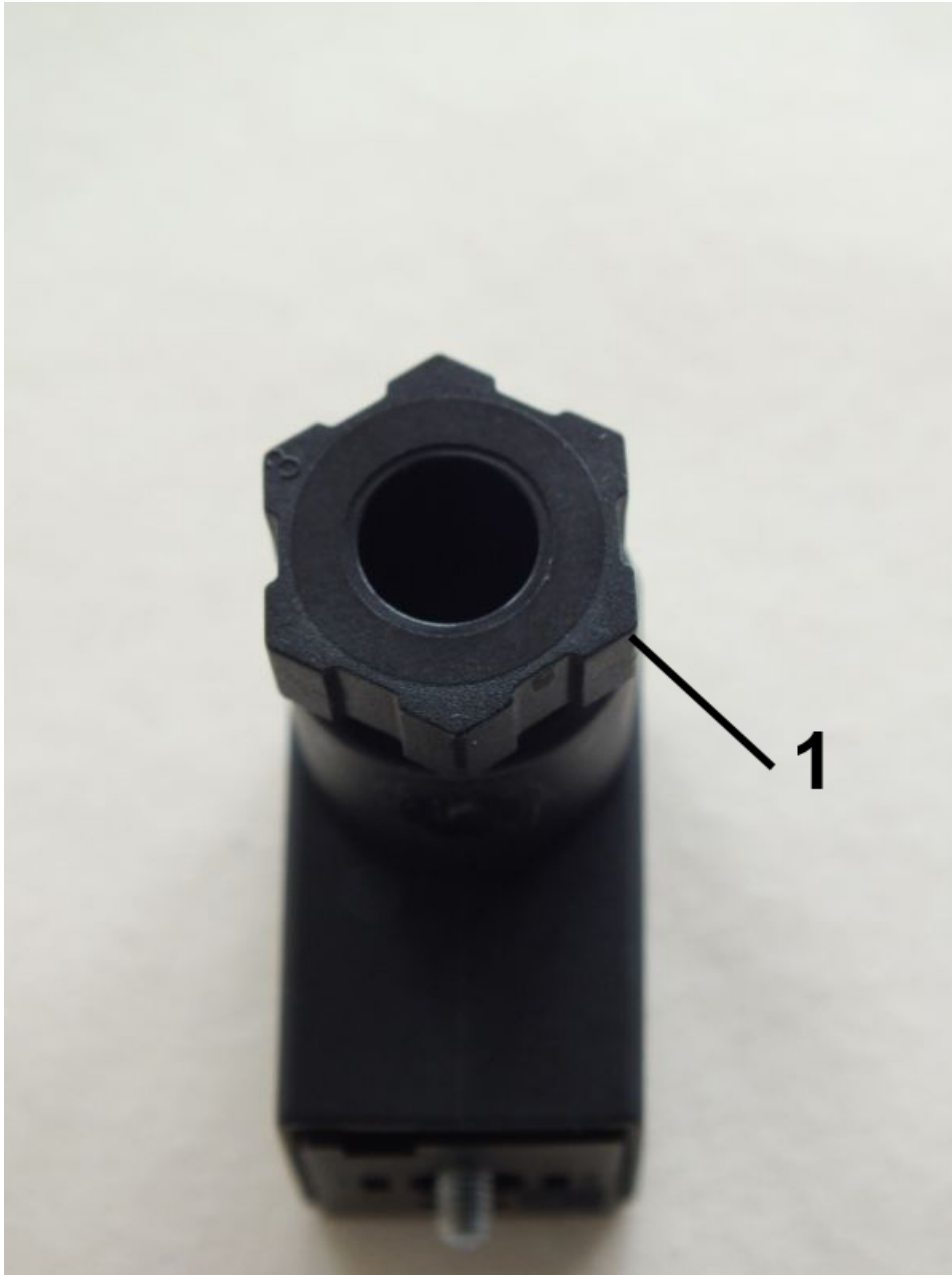

Fig. 24: Loosen the screw connection
- 4.** ➤ Unscrew the screw connection (*Fig. 24/1*) by turning the connection to the left
- 8.** ➤ Retighten the screw connection (*Fig. 24/1*) by turning it to the right until tight